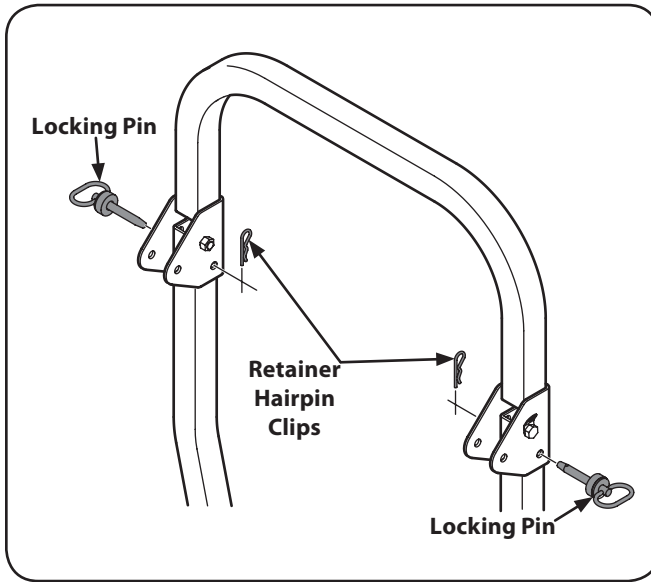

Figure 3-6
8. Move the upper ROPS section to the upright position, and insert the locking pins with their retainer hairpin clips. See Figure 3-6.